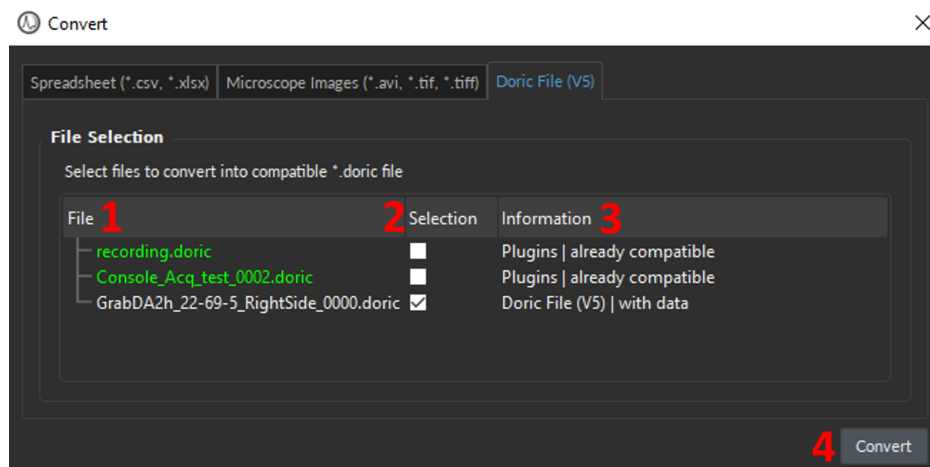
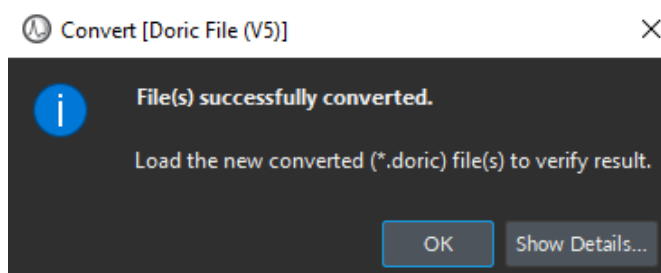

Figure 4.15: Convert Window, V5 Doric File Tab
Figure 4.16: Convert V5 Doric File, Process Complete Pop-up
To **Convert** v5 .doric files to v6, the **Doric File (V5)** tab (Fig. 4.15) includes the following parameters:
1. The **File** column (Fig. 4.15, 1) lists all of the .doric files contained within the **File Manager** (Fig. ??, 2). If the filename(s) are in green, then the folder is already in v6 .doric format and cannot be converted again. If the filename is in gray, it isn't in v6 format. However, if the filename is in red, then the data cannot be converted since it is most likely a V5 configuration file.
2. The **Selection** column (Fig. 4.15, 2) contains a checkbox where multiple files can be selected simultaneously for conversion. **NOTE THAT** Selecting a green file will give an error message.
3. The **Information** column (Fig. 4.15, 3) details whether a file was already converted. This section can even detect whether a V5 Doric File contains data or is a configuration file.
4. The **Convert** button (Fig. 4.15, 4) initiates the conversion process. Converted files will be saved in the same directory/folder as the original file, named as *FILENAME_converted_mmddyyyy*. A **Process Complete** pop-up window (Fig. 4.16) will be displayed if the conversion was successful. To view the file in the **File Manager** you must first load it (See Section 4.2).